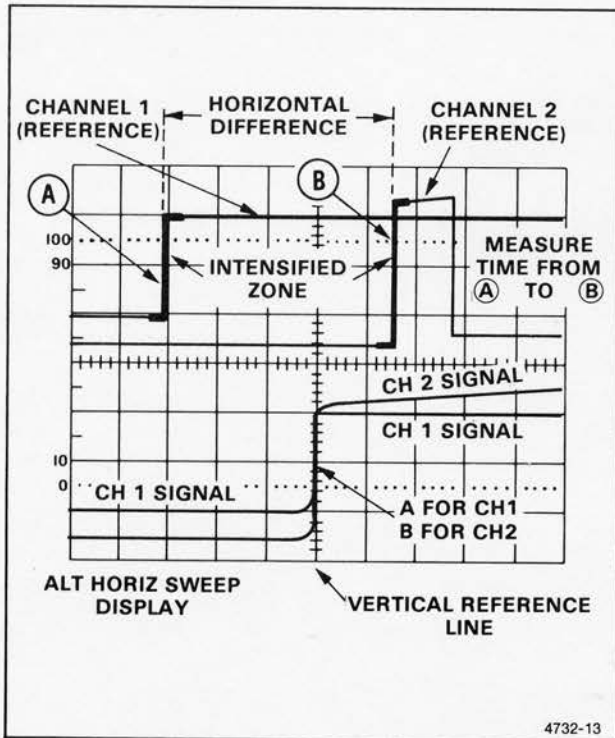

Figure 4-15. Time difference between two pulses on two time-related signals.
6. Rotate the B DELAY TIME POSITION control to move the intensified zone to the appropriate edge of the reference signal (on the A trace); then fine adjust until the edge of the reference signal (on the B trace) is centered at any convenient vertical graticule line (see Figure 4-15 Point A).
9. Rotate the B DELAY TIME POSITION control to set the appropriate edge of the of the Channel 2 pulse (on the B trace) to the same vertical reference point as used in preceding step 6 (see Figure 4-15, Point B). Observe the A trace to position the intensified zone to the correct pulse (if more than one pulse is displayed). Do not change the setting of the Horizontal POSITION control.